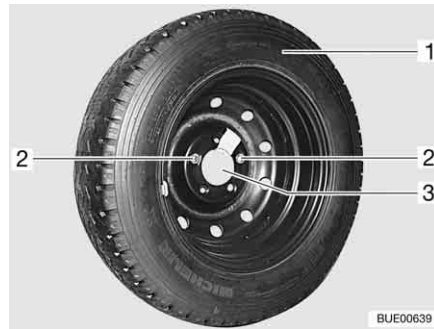

Fig. 278 Spare wheel support in the rear garage
- Loosen and remove both fixing screws (Fig. 278,2) with the on-board tool set.
- Remove the spare wheel (Fig. 278,1) from the support (Fig. 278,3).